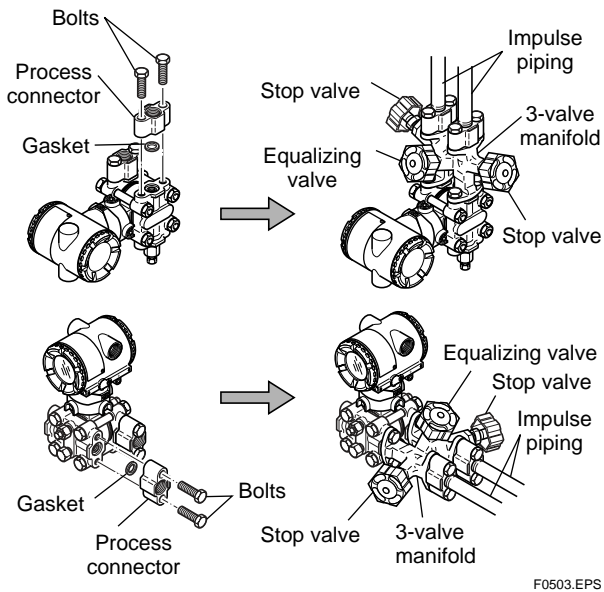

Figure 5.1.1c 3-Valve Manifold (Direct-Mounting Type)
■ Direct-Mounting Type 3-Valve Manifold (Figure 5.1.1c)